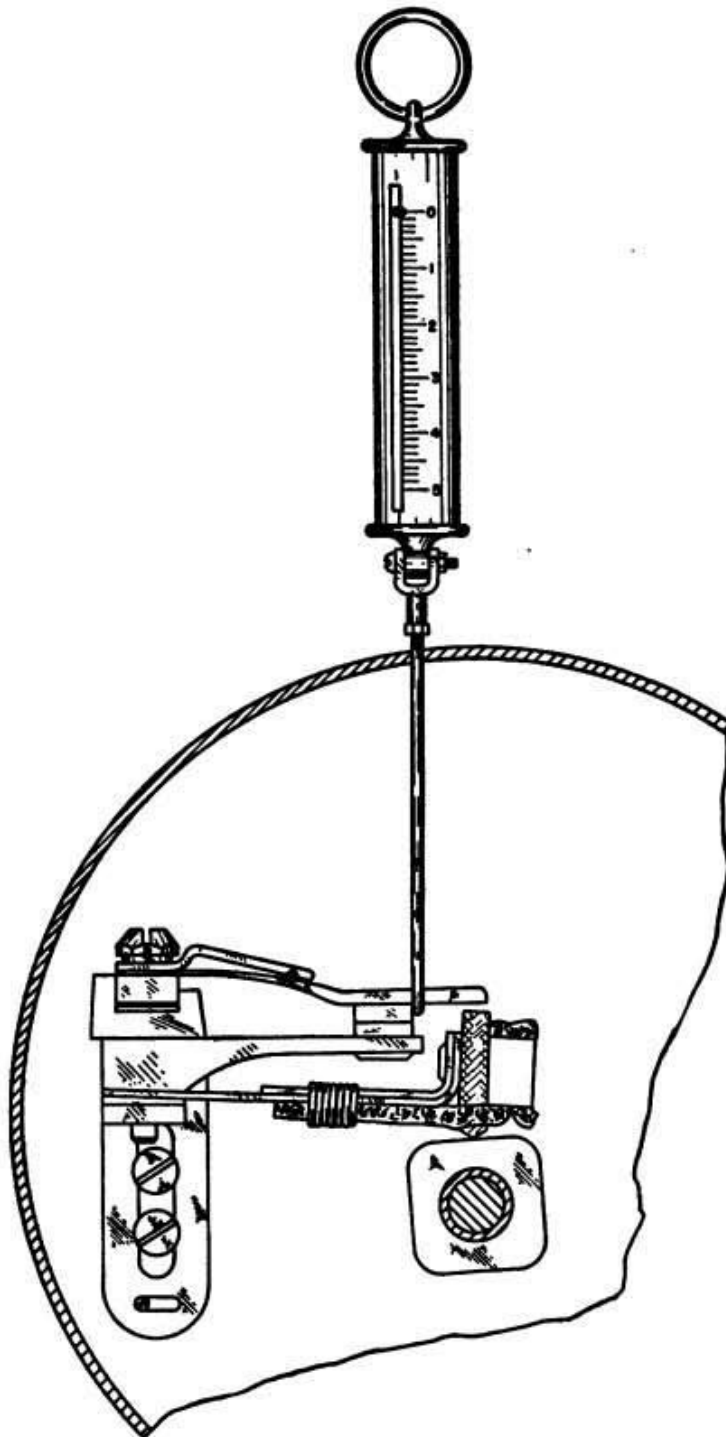

Figure 62. Testing the magneto breaker-arm spring for proper tension.
(1) MAGNETO. Remove the breaker cover, clean the breaker housing, and inspect the breaker mechanism for a damaged cam follower, damaged breaker felts or cushions, and a weak or broken breaker-arm spring. Use a scale for testing the breaker-arm spring. (See fig. 62.)